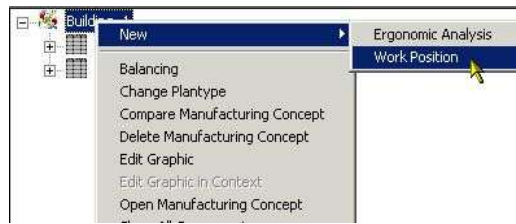

Figure 2: Generating a New Work Position
- 2) Open the contextual menu at the highest level, then click **Work Position**. Please refer to the Figure 2.